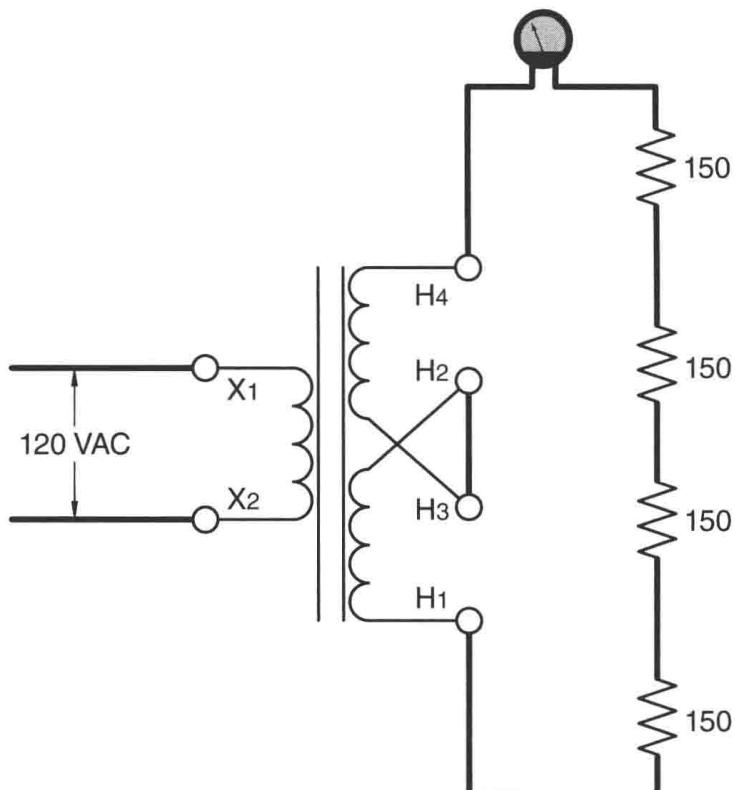

Figure 20-8 Connect the two high voltage windings in series. The transformer now has a turns-ratio of 1:4.
39. Reconnect the transformer as shown in Figure 20-8 by connecting the two high-voltage windings in series. Connect four 150-ohm resistors in series and connect them to terminals H_1 and H_4 for the transformer. Connect an ammeter in series with the secondary winding.